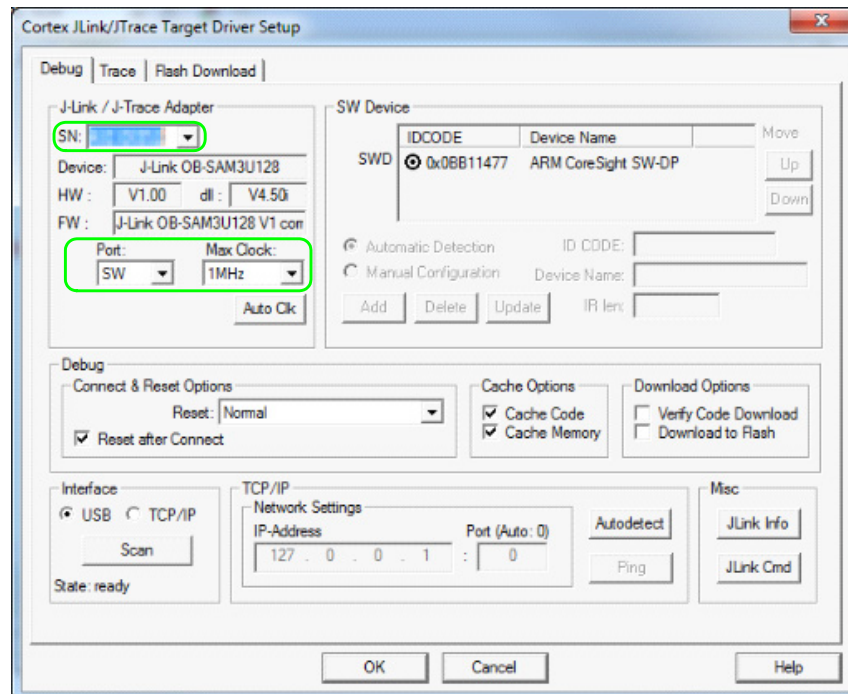

Figure 41 Debug settings
- Click the **Debug** tab shown in the figure. Set Port to **SW** and Max Clock to **1 MHz**, as shown in **Figure 41**. Make sure that **SN** and **IDCODE** are populated properly and click **OK**.